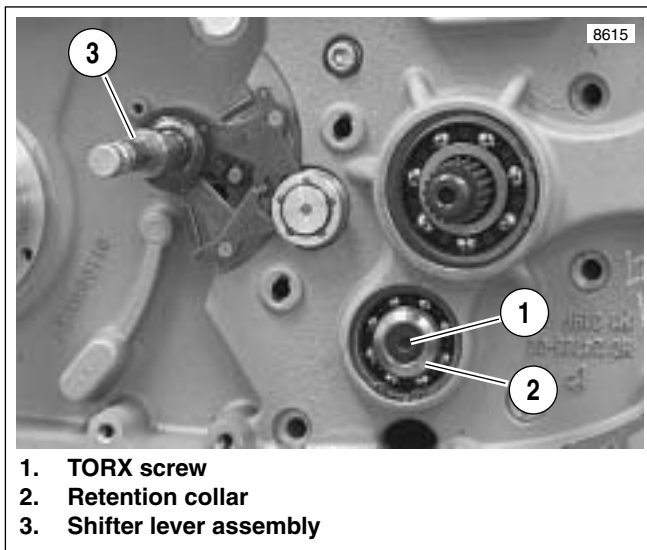

Figure 6-47. Countershaft Retainer
8. See Figure 6-47. Place transmission in 1st gear. Remove countershaft TORX screw (1) and retention collar (2).